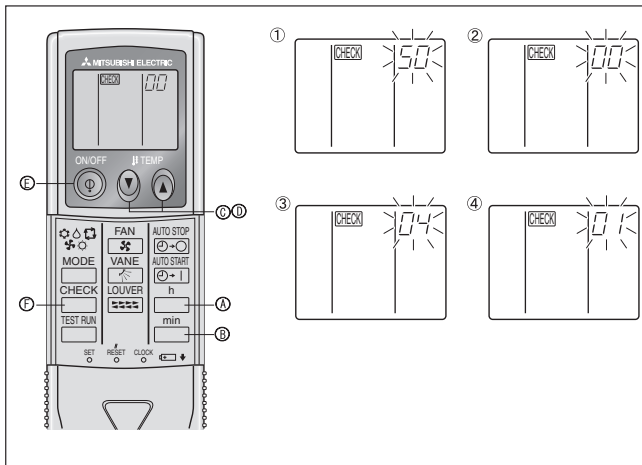

Fig. 6-7
⑧ Press the MODE button ① and the setting number (1) and (2) will change to being on constantly and the contents of the setting can be confirmed.
⑨ Press the FILTER ④ and TEST RUN ⑤ buttons simultaneously for at least two seconds. The function selection screen will disappear momentarily and the air conditioner OFF display will appear.
2) For IR wireless remote controller (Fig. 6-7)